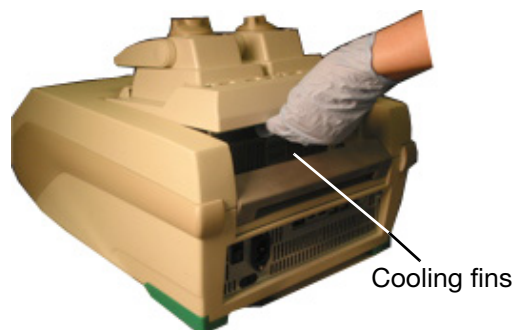

Figure 8. Lifting the reaction module out of the bay.
2. Unlock and release the reaction module by pushing the locking bar down (Figure 8).
3. Carefully lift the reaction module out of the bay (Figure 8).